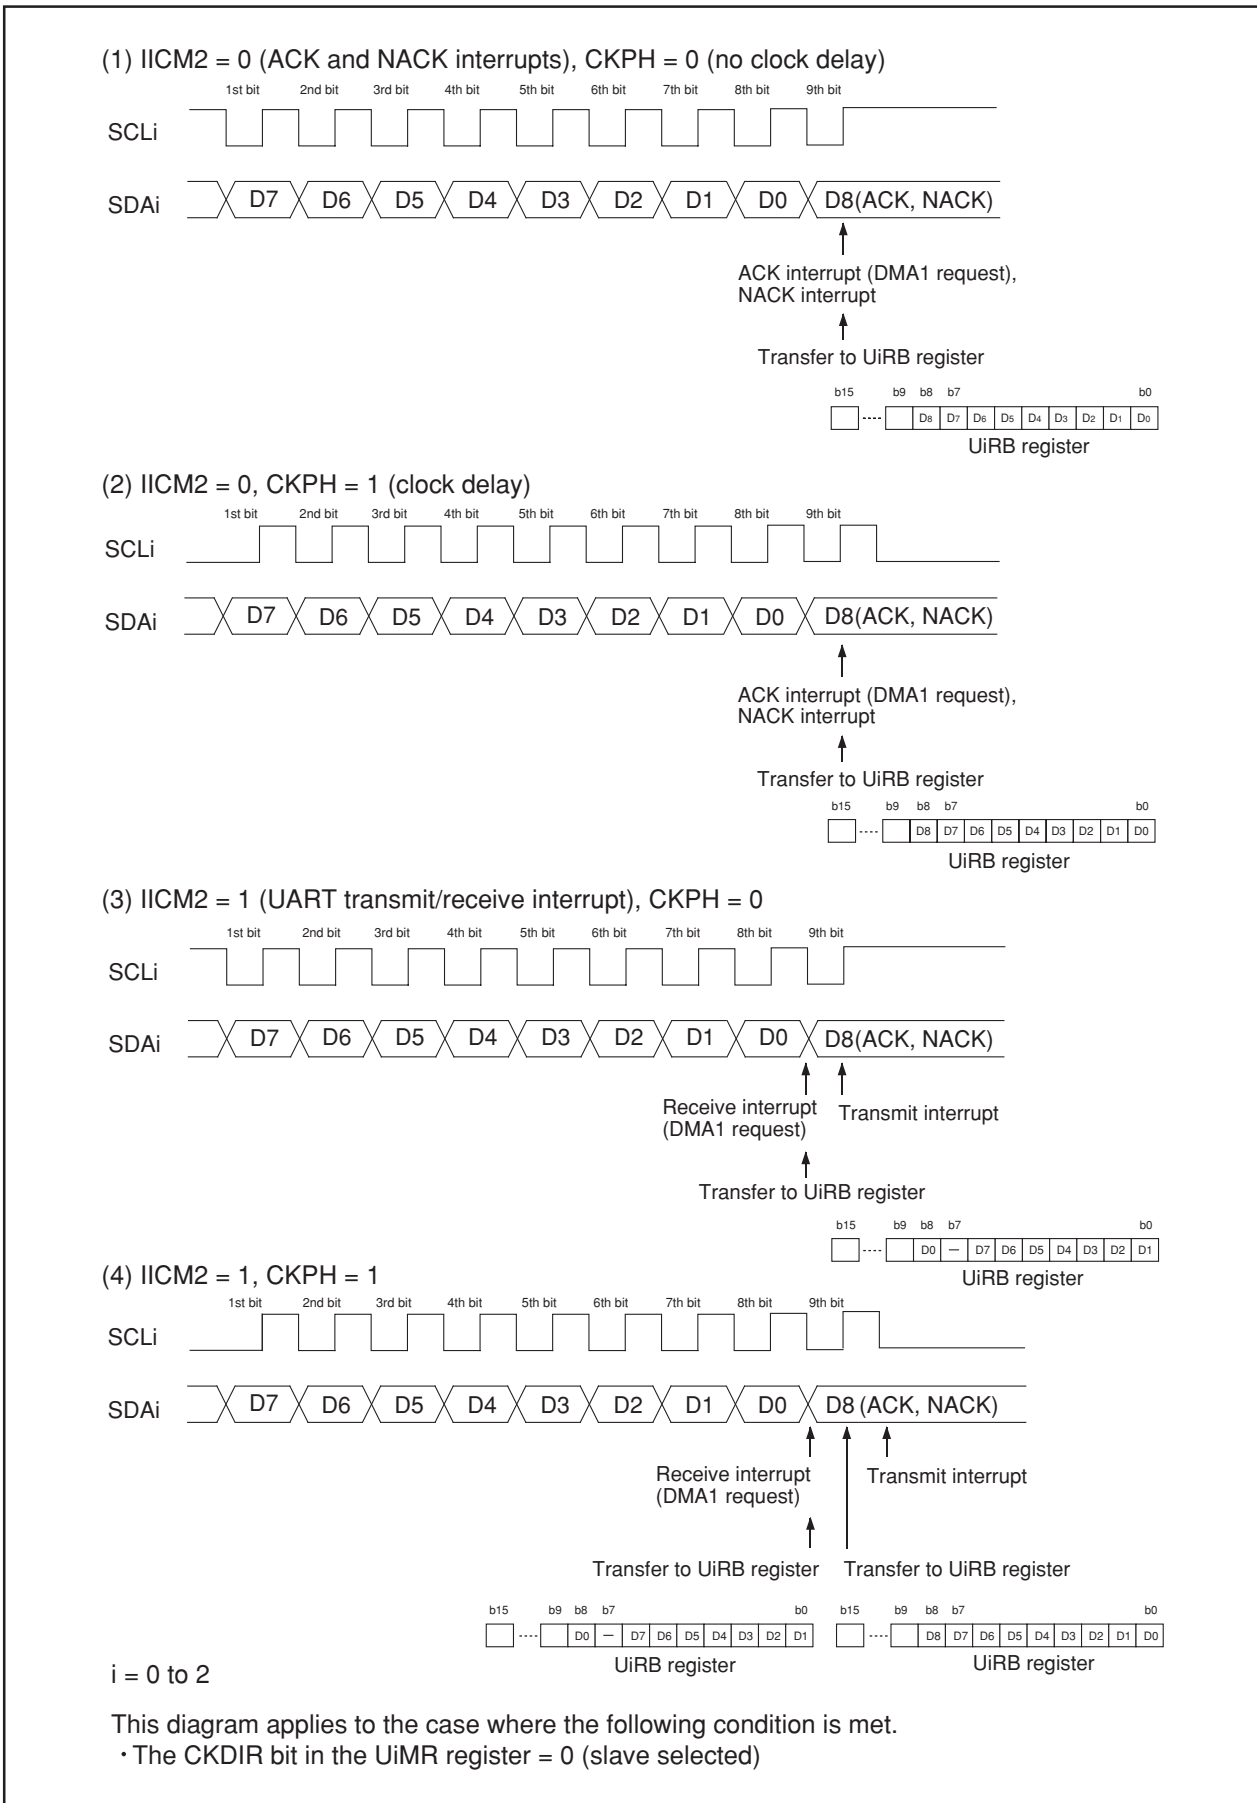

Figure 14.24 Transfer to UIRB Register and Interrupt Timing
- See Figure 14.24 Transfer to UiRB Register and Interrupt Timing.
Data is transmitted/received using a transfer clock like the one shown in Figure 14.24.